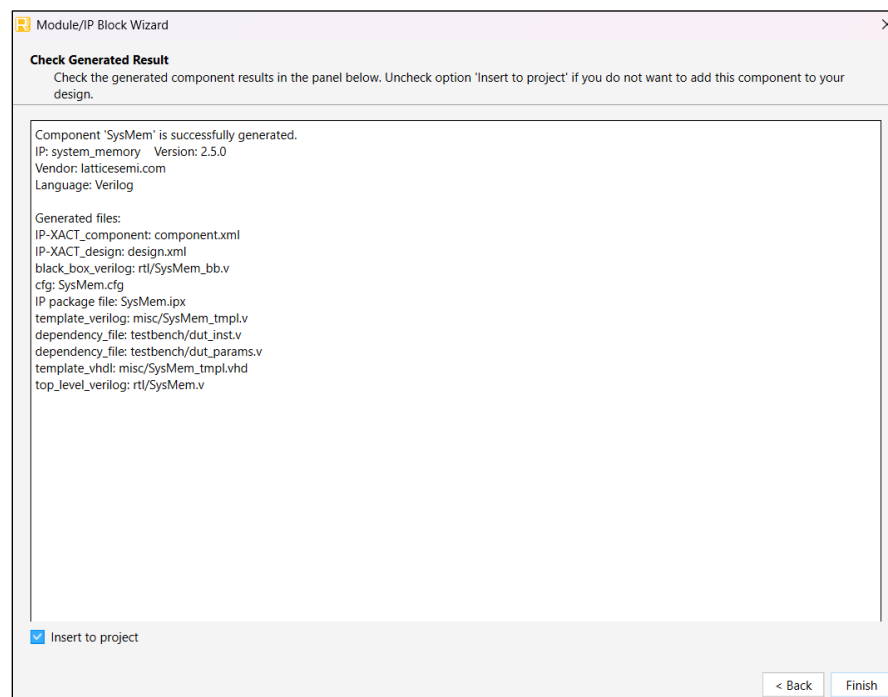

Figure 7.3. Check Generated Result
- Click **Generate**. The **Check Generated Result** dialog box opens, displaying the design block messages and results, as shown in Figure 7.3.